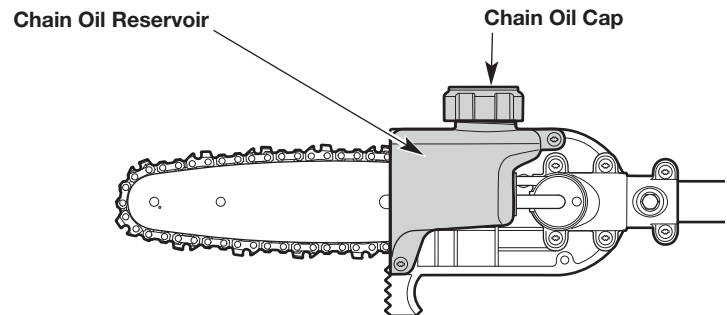

Fig. 9
1. Set the unit on a flat, level surface. Position the unit with the chain oil cap facing up (Fig. 9).
2. Make sure that the chain oil reservoir is at least half full (Fig. 9). If the oil level is too low, add bar and chain oil. Refer to *Filling the Chain Oil Reservoir*.
3. Unscrew the chain oil cap (Fig. 9).